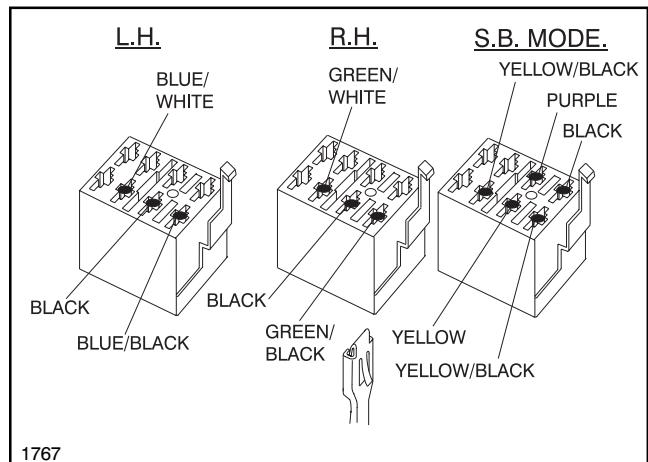

FIG. 7
- d.** Install the terminals/wires into the sockets of the new Connector Housings, provided, as shown in FIG. 7. Places all the wires from each group into a single Connector Housing. Orientate the terminals as shown in FIG. 7, with the Tangs facing in the direction of the Locking Arm. Firmly press the terminals into the sockets.